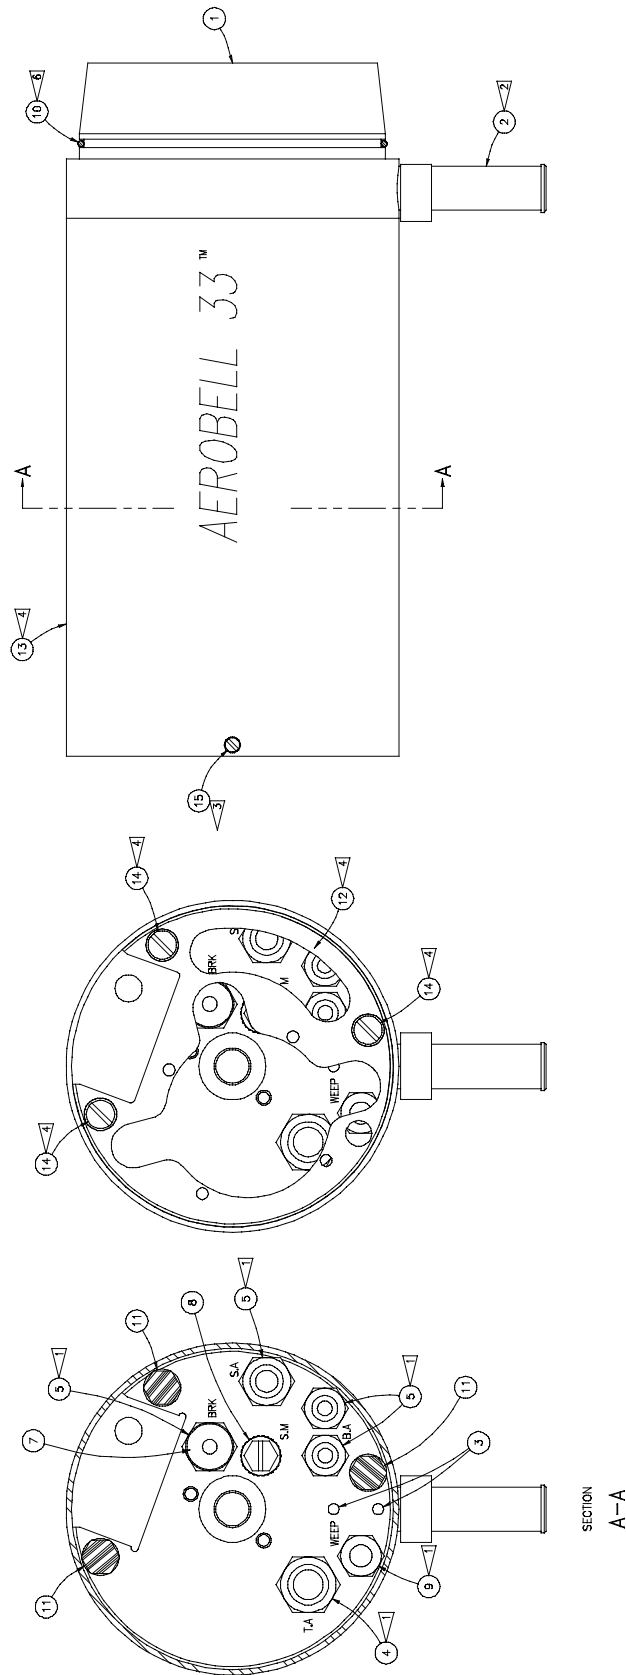

Figure 17: Manifold Assembly
MANIFOLD ASSEMBLY - PARTS LIST (Figure 17)
*** PARTS LIST BULLET DEFINITION TABLE (Figure 17)**